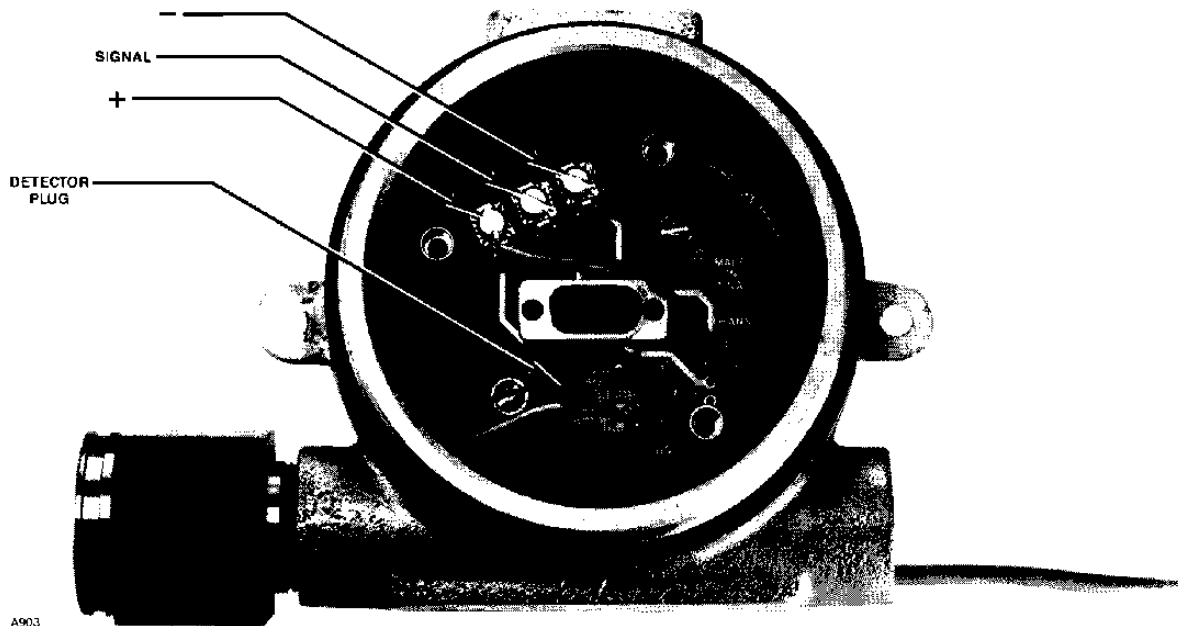

Figure 5—Junction Box
4. Connect the leadwires to the screw connectors on the terminal block inside the junction box. (See Figure 5). Connect the positive lead to "+", the negative lead to "-", and the signal lead to "signal". **Do not** ground the shield at the detector. Always insulate the shield from the junction box and ground the shield at the controller **only** (terminal 2).
6. Attach the detector to the junction box as shown in Figure 5 and connect the plug. The plug is keyed to aid in correct installation.